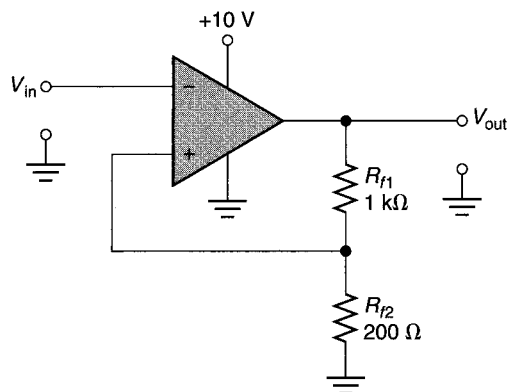

FIGURE 19.60
26. Determine the UTP and LTP values for the Schmitt trigger in Figure 19.60.